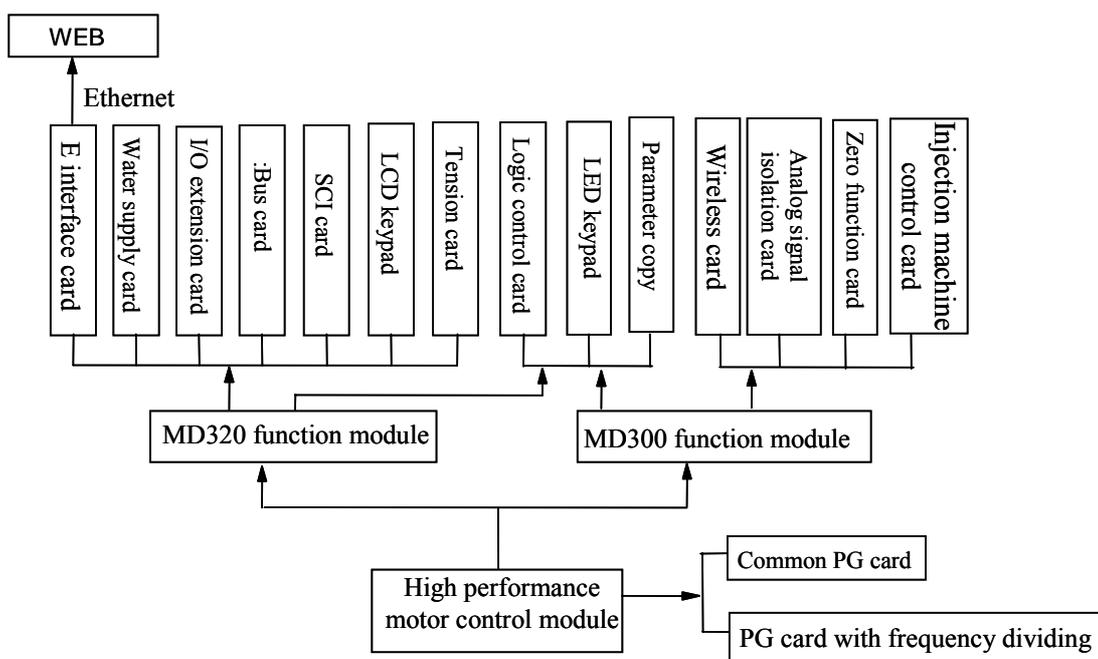

Fig.2 Architecture of MD series inverter
- 2: It creates the physical standard for dividing the main function modules such as motor drive, universal function and specialized function and various submodules according to the user's requirement, as shown in Fig. 2.
solution platform for the specialized requirement in the industry and the users can develop their own solutions based on the module according to his actual needs. The module is shown in Fig. 2.